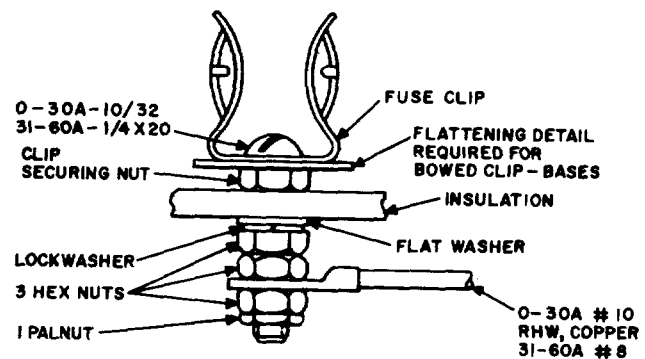

Fig. 18—KS-20521 Typical Mounting Arrangement
**3.14** To replace the KS-20521 fuse clip, remove the old clip from the base. Substitute the new fuse clip, and replace as shown in Fig. 18.